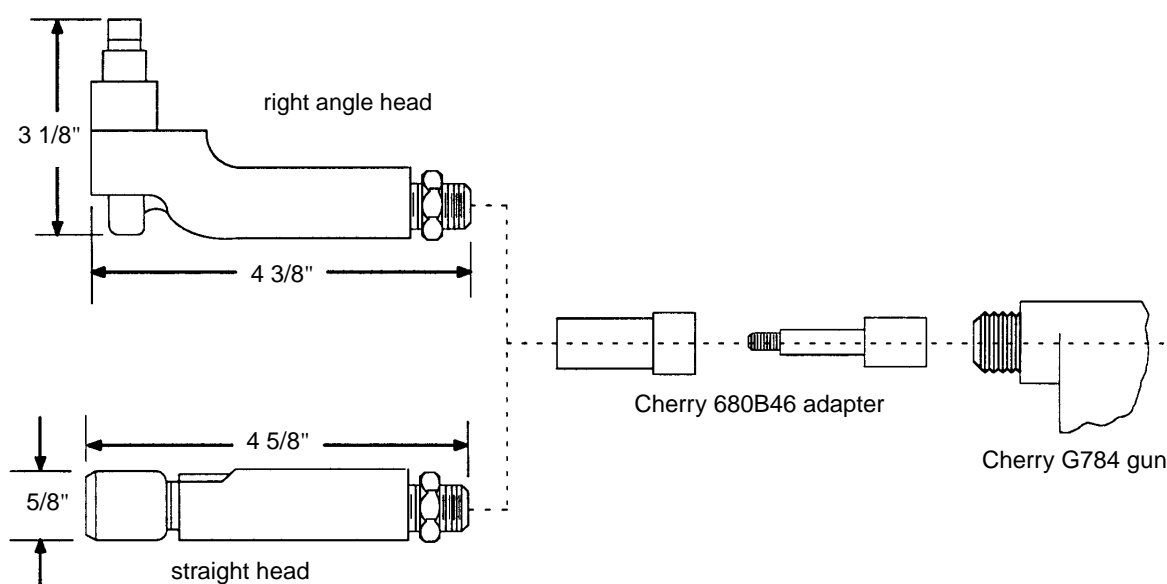

Figure 6 - Installing Pulling Head onto Power Tool
5.3.1 Assemble the pulling head on the installation gun as follows (see Figure 6):